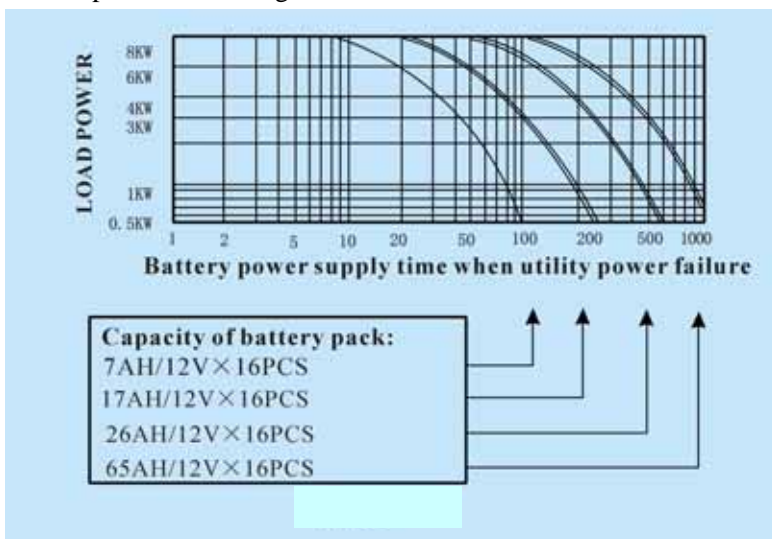

Figure 36
2. The time that battery supplies power has relation with using rate of load, please refer to figure 36.